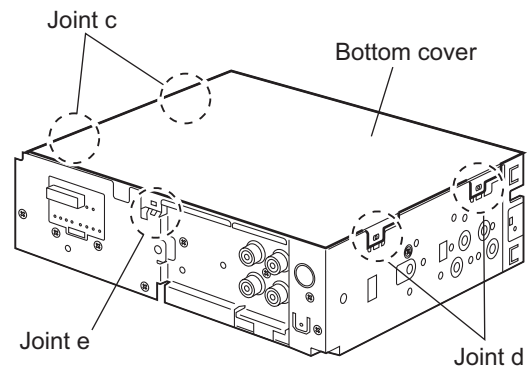

Fig.5
2.1.4 Removing the bottom cover (See Figs.5 and 6.)
Do not damage the main board when releasing the joint **e** using a screwdriver. (See Figs.5 and 6.)